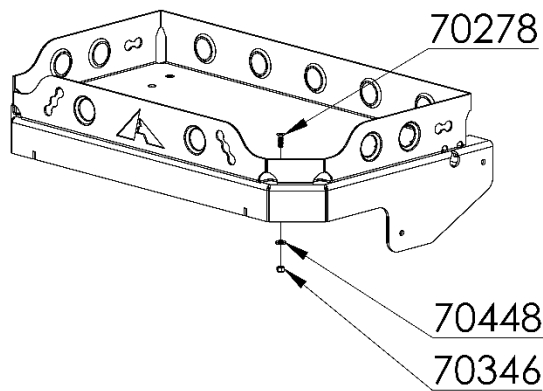

Figure 1: Trail Caddy Installation
3. Using the four 5/16-18 flat head cap screws, four 5/16 nylock nuts, and four 5/16 flat washers install the Trail Caddy to the PowerLift as shown in Figure 1. Use either the outer or inner holes based on your alignment with the slot on the PowerLift.